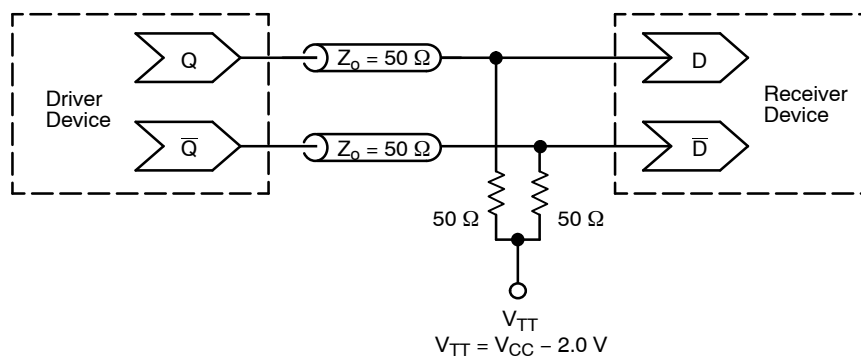
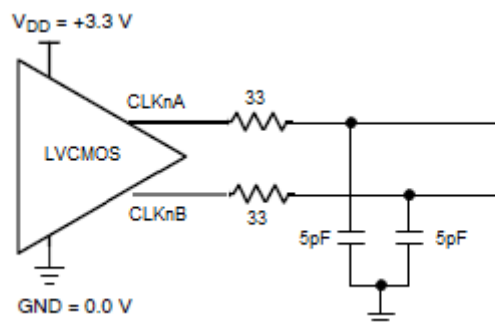

Figure 9. Typical Termination for LVPECL Output Driver and Device Evaluation
Figure 11. Typical LVCMOS Output Test Setup for Evaluation
13. Measured by using a 25 MHz crystal as clock source. All LVPECL outputs are loaded with an external $R_L = 50\ \Omega$ to $V_{DDO} - 2\text{ V}$ (Figure 9); LVCMOS outputs loaded with $R_S = 33\ \Omega$, $C_L = 5\text{ pF}$, 5" 50 Ω trace, (Figure 11).